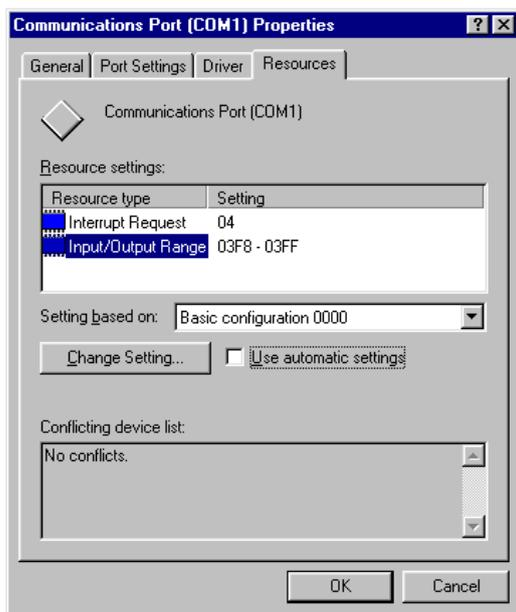

Figure 2-3
- Uncheck *Use automatic settings* check box (see Figure 2-3).